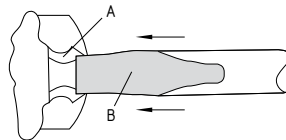

Fig. 43
- Spread the spring (A) between actuator plunger and the EFR spring element by means of a screwdriver (B) or similar (refer to drawing Fig. 43). The actuator jumps back into basic position.